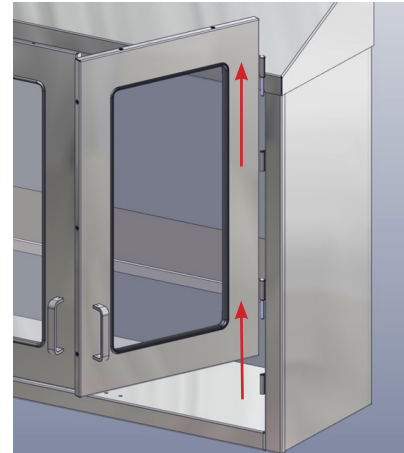

Fig. 6: Lift door from hinges
1. If the High Cabinet is equipped with doors, they may be removed for ease of installation. To remove the doors, open the doors fully and lift them off their hinges. The pin on the hinge of the door will slide out of the barrel of the hinge on the cabinet. (Fig. 6).